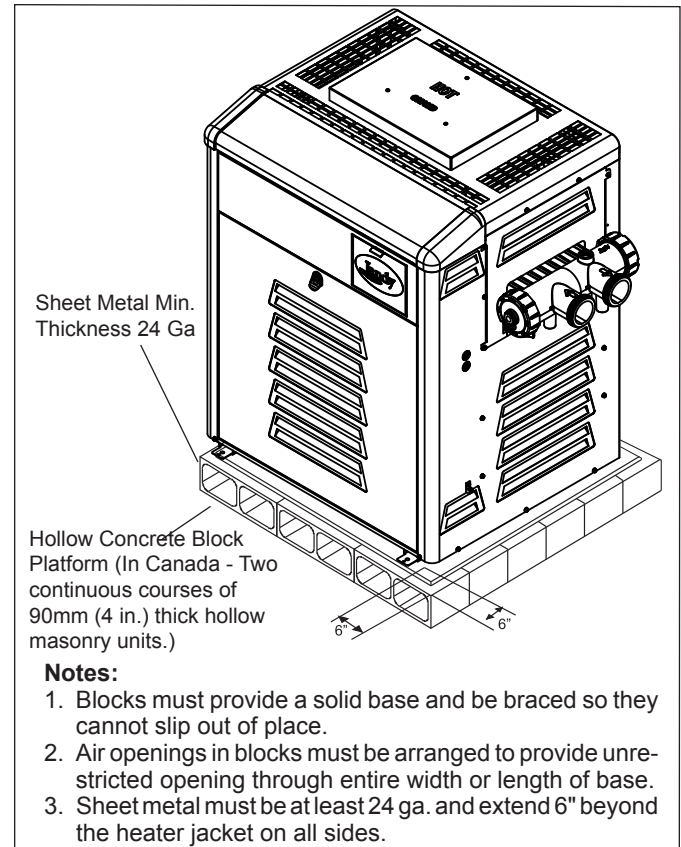

Figure 2. Noncombustible Platform
As an alternative to the Jandy noncombustible base plate, in the United States, the National Fuel Gas Code (NFPA® 54 / ANSI® Z223.1), and in Canada, the Natural Gas and Propane Installation Code (CAN/CSA-B149.1), allow a heater to be placed on a combustible surface when there is a platform under the heater made of hollow masonry no less than four (4) inches (102 millimeters [mm]) thick, covered with sheet metal at least 24 gauge thick and extending beyond the full width and depth of the heater by at least six (6) inches (153 mm) in all directions. The masonry must be laid with ends unsealed, and joints matched to provide free circulation of air from side to side through the masonry, see Figure 2. If the heater is installed in a carpeted alcove, the entire floor of the alcove must be covered by a noncombustible panel.